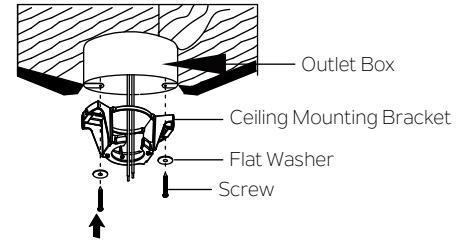

Fig. 5
Step 1. Before attaching fan to outlet box (not included), ensure the outlet box is securely fastened to at least two points to a structural ceiling member (a loose box will cause the fan to wobble). Pass the 120 volt supply wires from the ceiling outlet box through the center of the mounting bracket to outlet box in ceiling using the screws and washers included with the outlet box or screws and washers in the hardware bag. (Fig. 5)